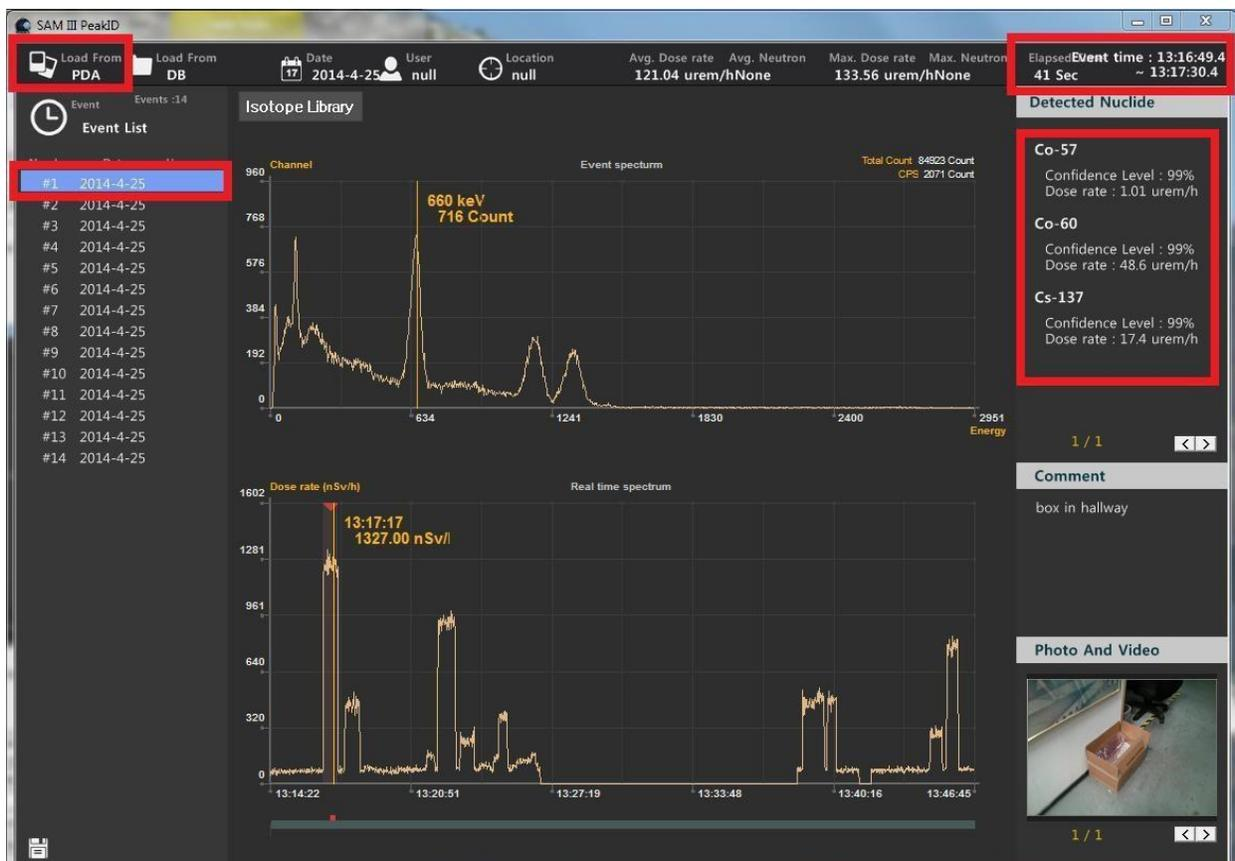

Figure 5.5. Event Log download from smartphone to PC
2. Click **Load from PDA** (Figure 5.5, top left)
PeakID automatically downloads the Event Log to the PC database and deletes it from the smartphone. Downloaded events are displayed in the Event List window (Figure 5.5, upper left).
The spectrum is displayed in the Event Spectrum window (Figure 5.5, center)
Time and duration of the selected event are displayed in the Real-Time Activity window (Figure 5.5, top right)
Isotope information for the selected event is displayed in the Detected Nuclide window (Figure 5.5, upper right)
4. The Event Log is highlighted in the Event List window. The selected event is displayed in the Event Spectrum window. Isotope information and all relevant event data are displayed as in Figure 5.5.